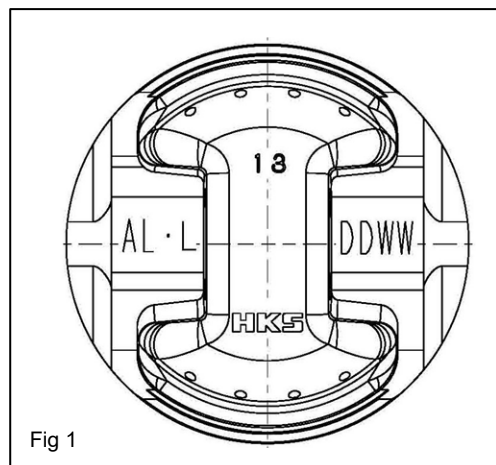

Fig 1
- 2.1 Confirm the O.D. of the piston skirt on the back of the piston. The diameter is between 86.460 to 86.470mm. The last 2 numbers of the 3 digits after the decimal point are shown on the back of the piston. (e.g.: If the O.D. is 86.465mm, "65" is shown on the back of the piston.) (Fig 1)